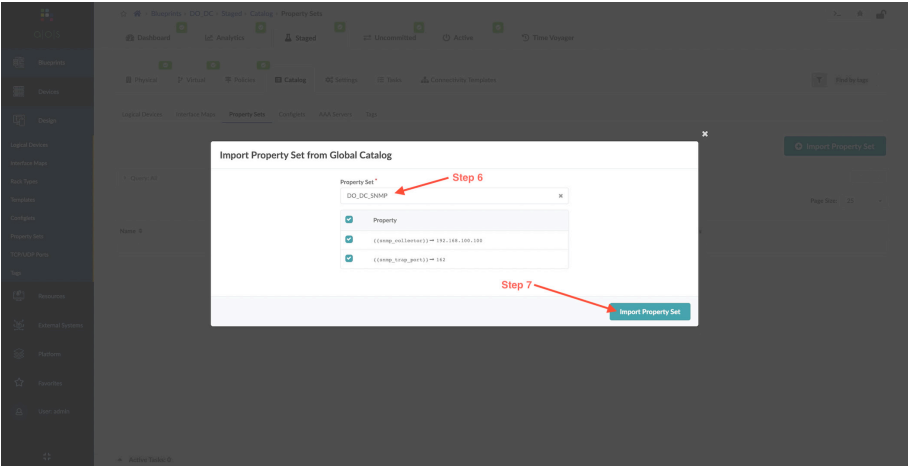

Figure 7.22 Importing a Property Set
Step 6: From the dropdown menu select the Property Set to be imported. See Figure 7.22.